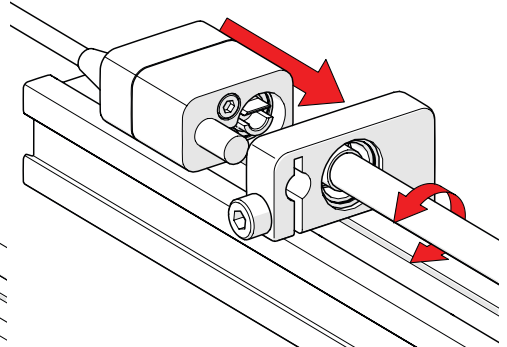

Fig. 65 - Align and mount post
2. Insert the encoder post in the index encoder support bracket while aligning the leadscrew shaft with the encoder socket (*Fig. 65*).